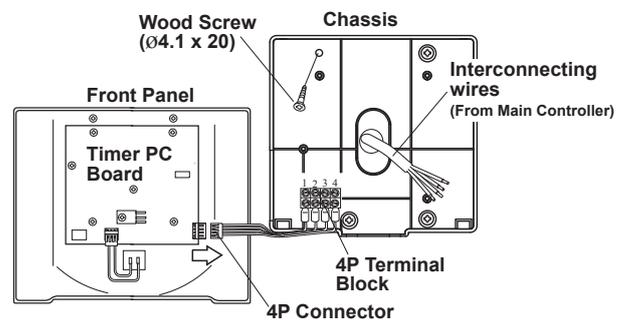

Fig.3-20 Attaching Sub Controller Chassis
2. Disconnect the 4P connector from the timer PC Board. **(Fig.3-20)**
3. Route the interconnecting wires from the main controller through access hole of chassis and mount on the wall with four (ø4.1 x 20mm) wood screws. **(Fig.3-20)**
6. Reattach the 4P connector to the timer PC Board. **(Fig.3-20)**